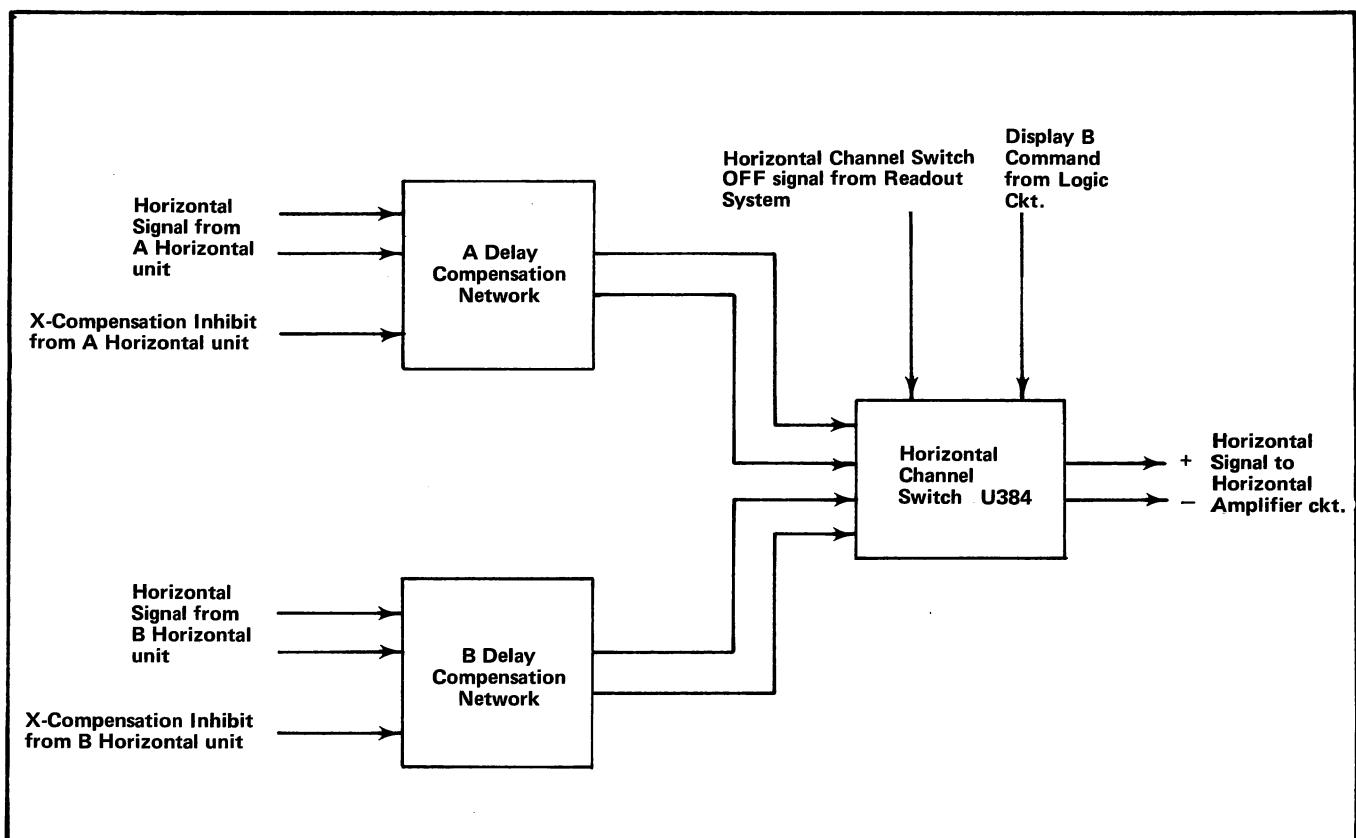

Fig. 3-27. Horizontal Interface detailed block diagram.
The X-Y Delay Compensation network provides a delay for the horizontal (X) portion of an X-Y display to match the delay of the vertical (Y) signal due to the Delay Line. The Horizontal Interface portion of the circuit selects the horizontal deflection signal from the output of the A Horizontal and/or the B Horizontal plug-in unit. Fig. 3-27 shows a detailed block diagram of this circuit. A schematic of this circuit is shown on diagram 6 at the rear of this manual.